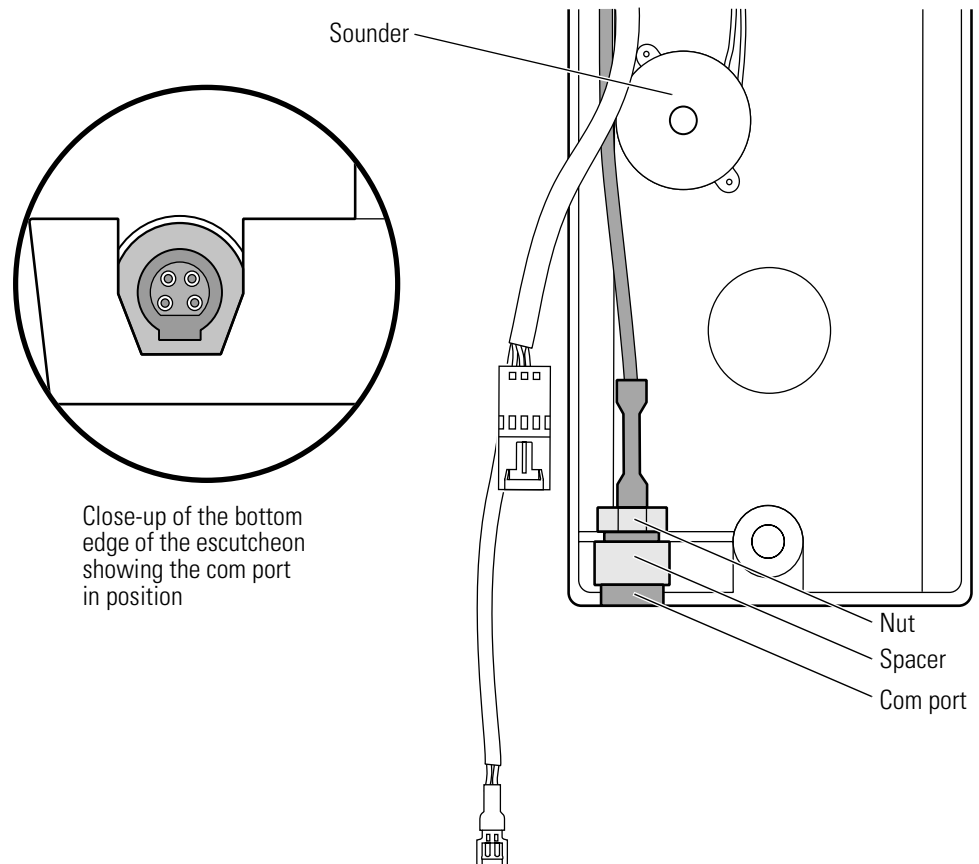

Figure 9.8 Connecting the sounder and com port to the outside escutcheon
4. Slide the com port into place in the escutcheon and tighten the nut. See Figure 9.8.